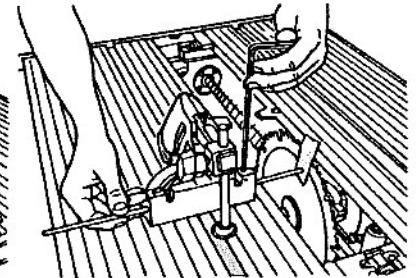

Fig. B-19
20. Gently press the rod against the paper and blade, then use a 5/32" Allen wrench to tighten the setscrew in the miter gauge body, locking the rod in place. Make sure the miter gauge knob is secured. See Fig. B-19. You should be able to remove and insert the piece of paper from between the rod and blade with minimal resistance.